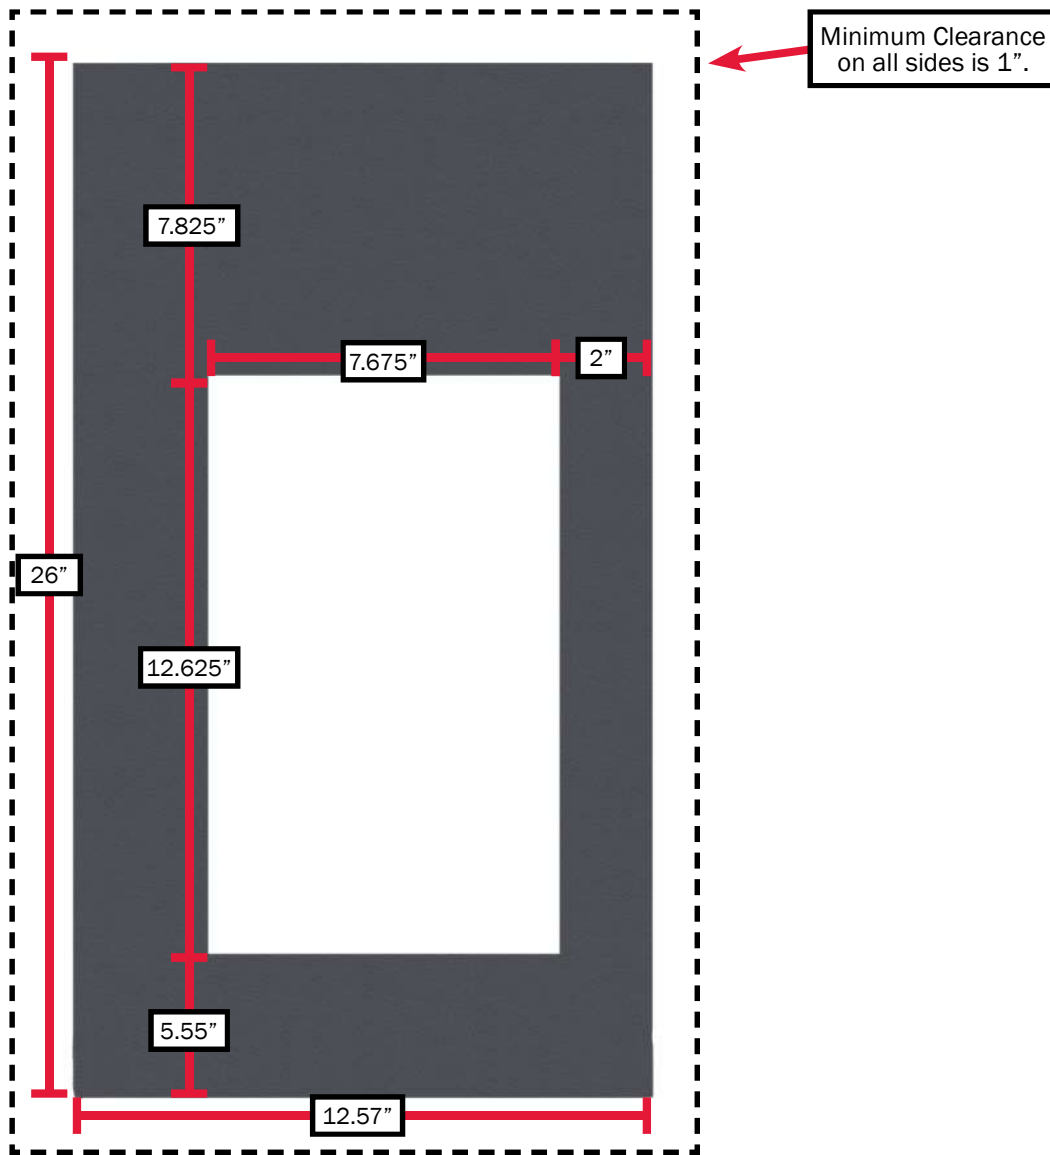

Figure 4
2. Cut out the required mounting flange opening Reference Figure 4.
- Floor cutout information Figure 4.
**NOTE:** The mounting flange of the Aqua-Hot is not centered on the body of the heater. Reference Figure 4 for the correct dimensions to construct the surface on which the Aqua-Hot will be mounted.